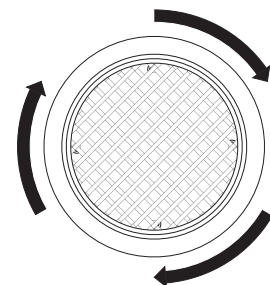

Fig. 2
STEP 2: While holding the register with the blades at a 45 degree angle insert into duct opening. Then rotate the register until it locks into place (fig. 2). The open side of the mounting hooks will fit around the adjusting screw as shown in the close up. The hooks and adjusting screw must align for proper installation.